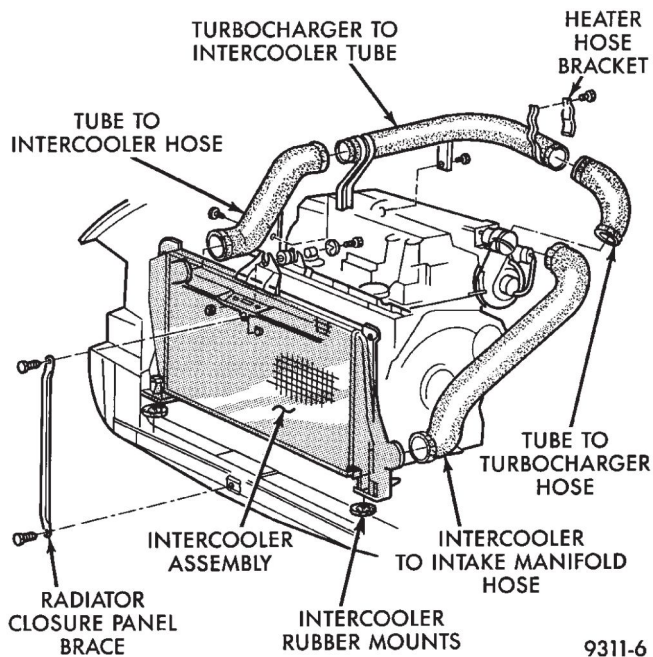

Fig. 24 Intercooler Assembly
- (2) Drain the cooling system. Refer to Group 7, Cooling.
- (3) Remove wiper module. Refer to Group 8K, Windshield Wiper Unit Removal for procedure.
- (4) Remove coolant pressure bottle.
- (5) Remove intercooler hose at intake manifold (Fig. 24).
- (6) Remove intercooler hose at turbocharger intercooler tube.